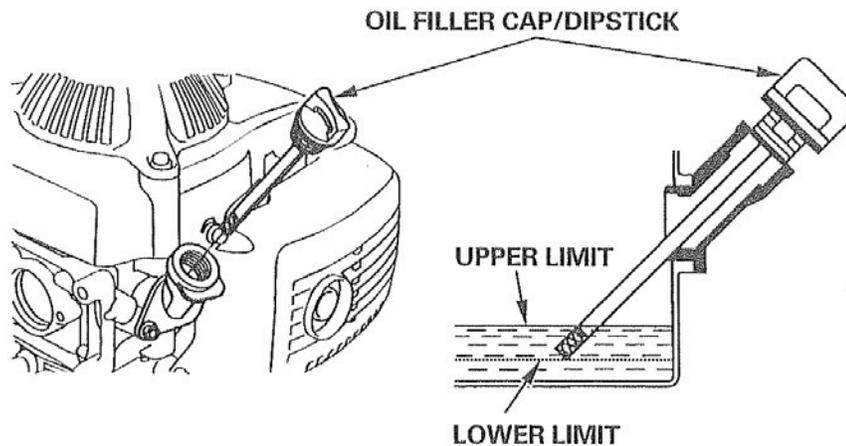

Figure 5
Before each use, ensure that the oil level is between the *Lower* and *Upper limit* marks on the dipstick. (Fig.5) **Do not screw in the dipstick to check the oil.**
6. Insert the dipstick into the filler neck **BUT DO NOT SCREW IT IN**. Then remove the dipstick and read the oil level. (Fig. 5)